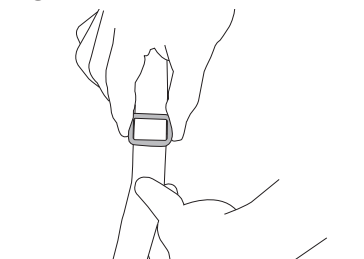

Figure 26
- Both the shoulder straps and the waist/crotch straps may be adjusted using the sliding buckles on these straps. See Figures 26 and 27.